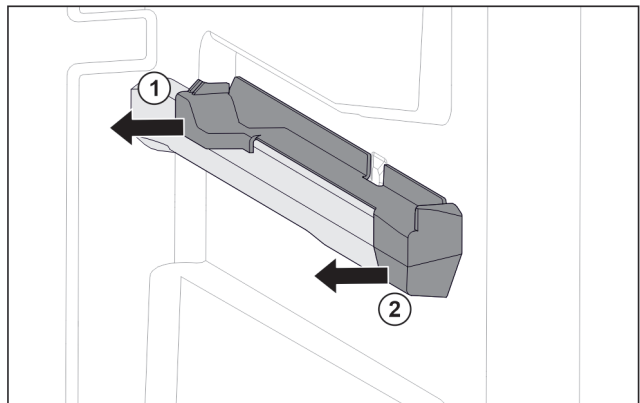

Fig. 118 Attachment on the right moulded rib
- ▶ Pull off attachment at the back sideways. Fig. 118 (1)
- ▶ Pull off attachment at the front sideways. Fig. 118 (2)